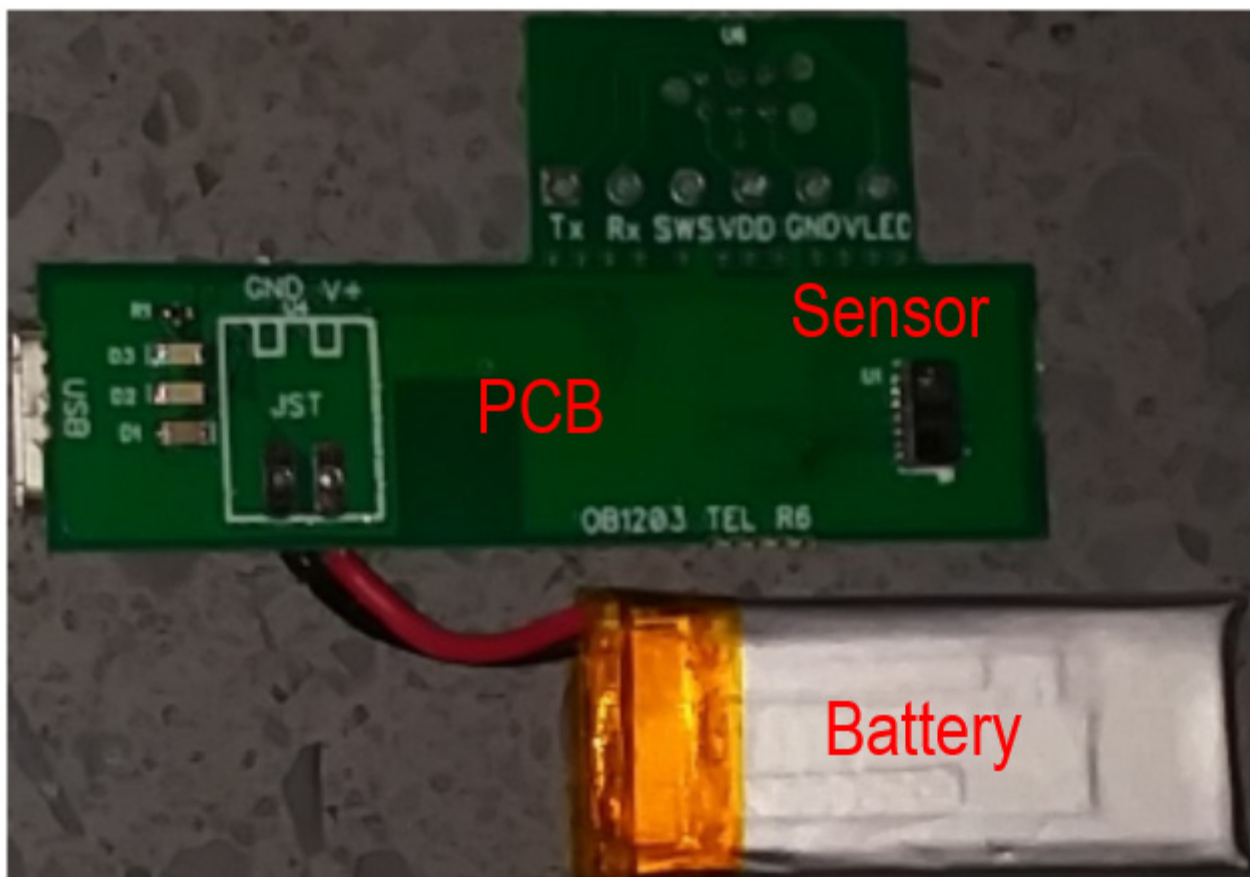

Figure 2. ICE Hardware
The Integrated Context Engine (ICE) for Biosensing (see Figure 2) includes:
- PCB (see Figure 2):